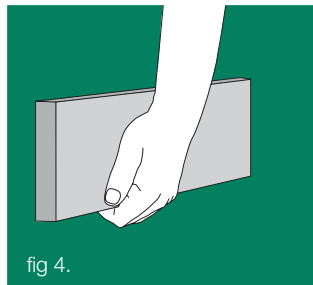

fig 4.
- Carry the products on edge (figure 4)